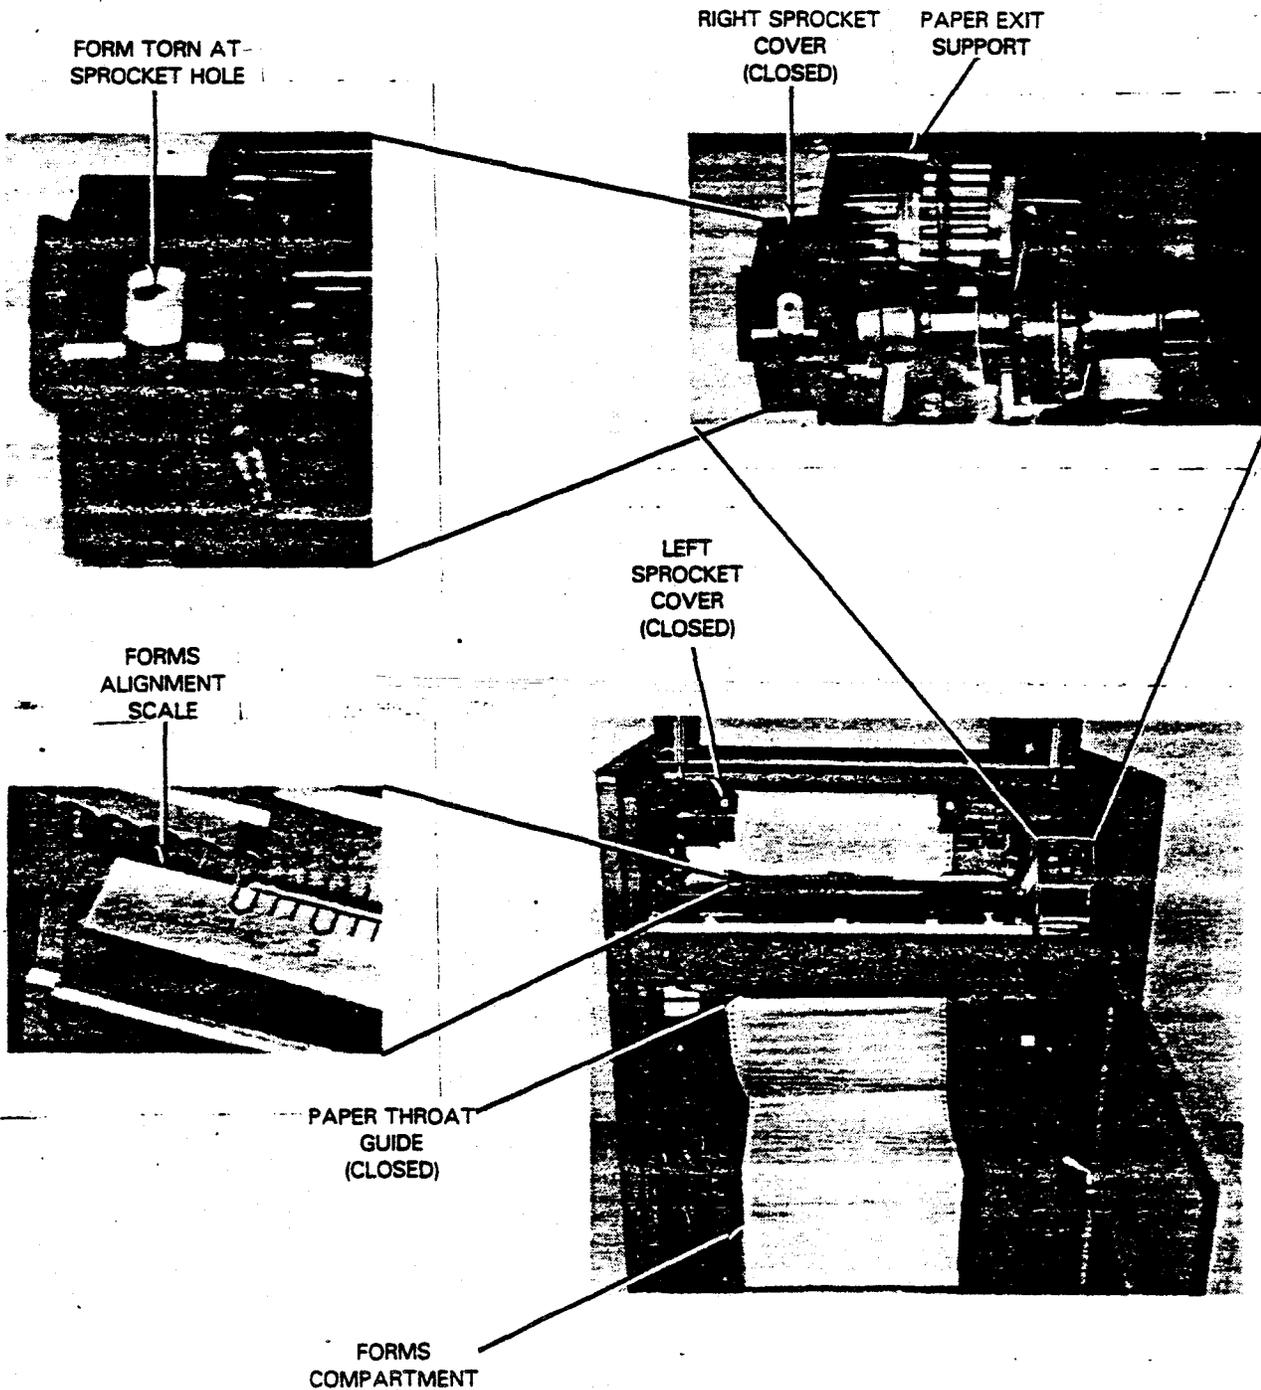

Figure 4-7. Loading Forms
14. Place the container of forms into the forms compartment (Figure 4-7) so that the printing surface of the form faces front when it feeds into the print mechanism.